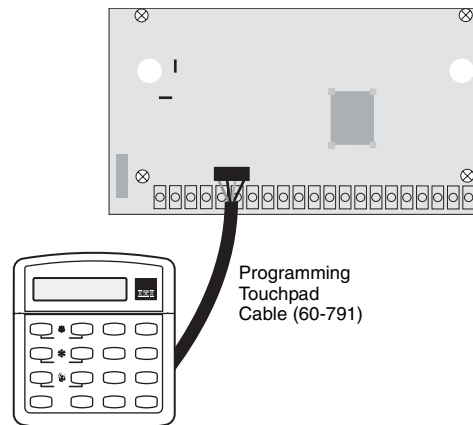

Figure 20. Connecting a Programming Touchpad
3. Connect the plug on the cable onto the panel programming touchpad header (see Figure 20).